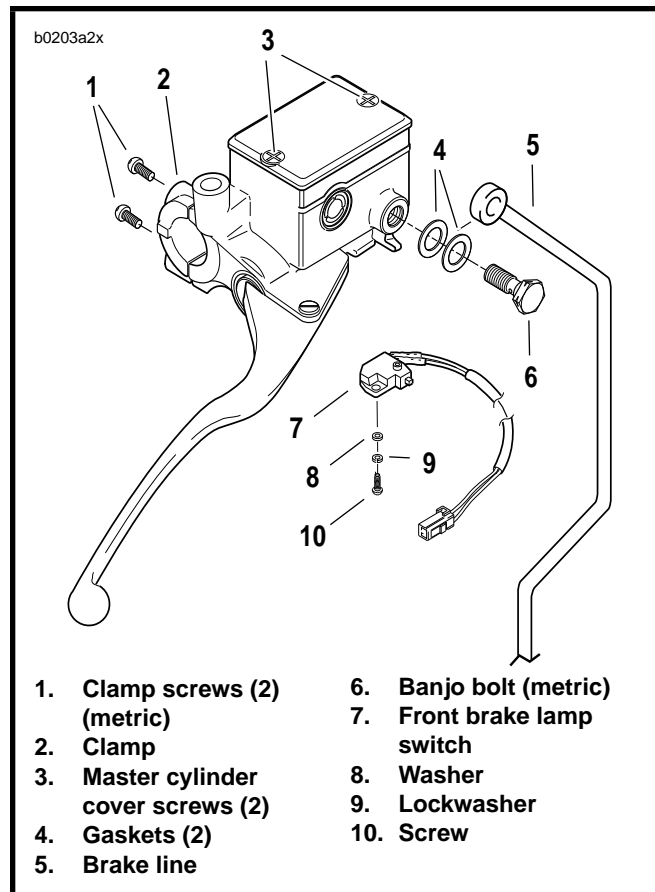

Figure 2-18. Front Master Cylinder Banjo Bolt
3. See Figure 2-18. Remove banjo bolt (6) (metric) and two gaskets (4) to disconnect brake line from master cylinder. Discard gaskets.
4. Remove screw (10), lockwasher (9) and washer (8) to detach brake lamp switch (7).
1. See Figure 2-18. Fasten master cylinder to handlebar by installing clamp (2) and screws (1) (metric). Tighten screws to 80-90 **in-lbs** (9.0-10.2 Nm).